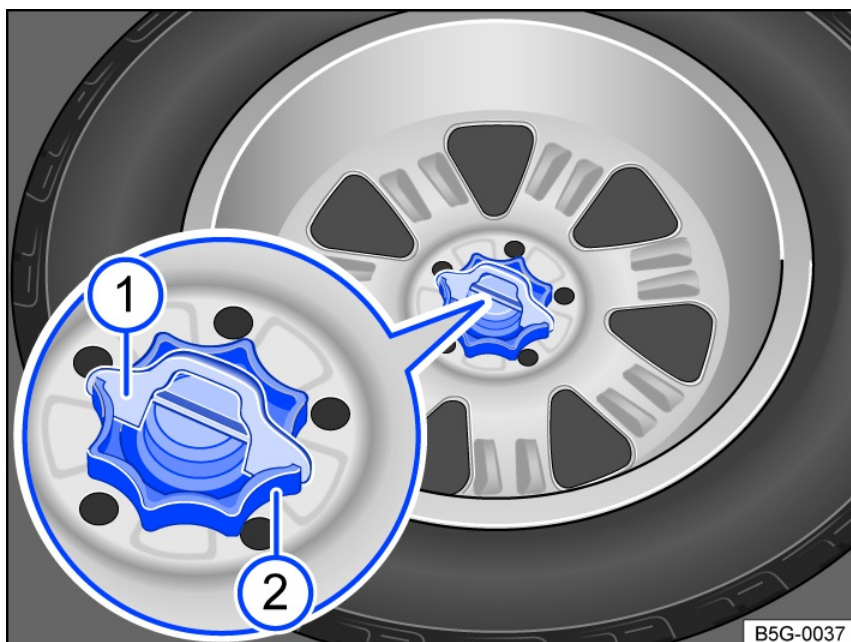

Fig. 172 In the luggage compartment: handle to secure the compact spare wheel.
- Pull the locking wedge fig. 172 upwards and out.
- Turn the handle in the center of the spare tire fig. 172 all the way counterclockwise.
- Position the locking wedge fig. 172 in the slot on the threaded pin so that the handle will not be able to turn.